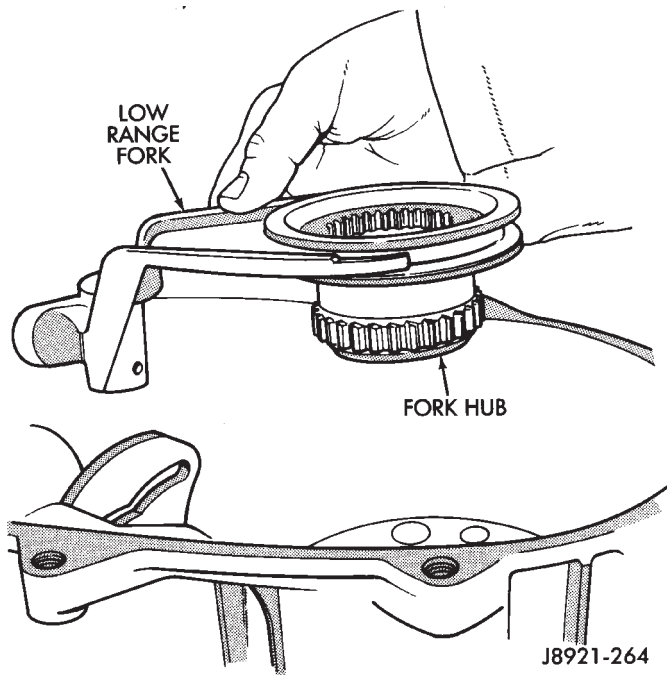

Fig. 24 Low Range Fork And Hub Removal
(36) Remove low range fork and hub (Fig. 24).